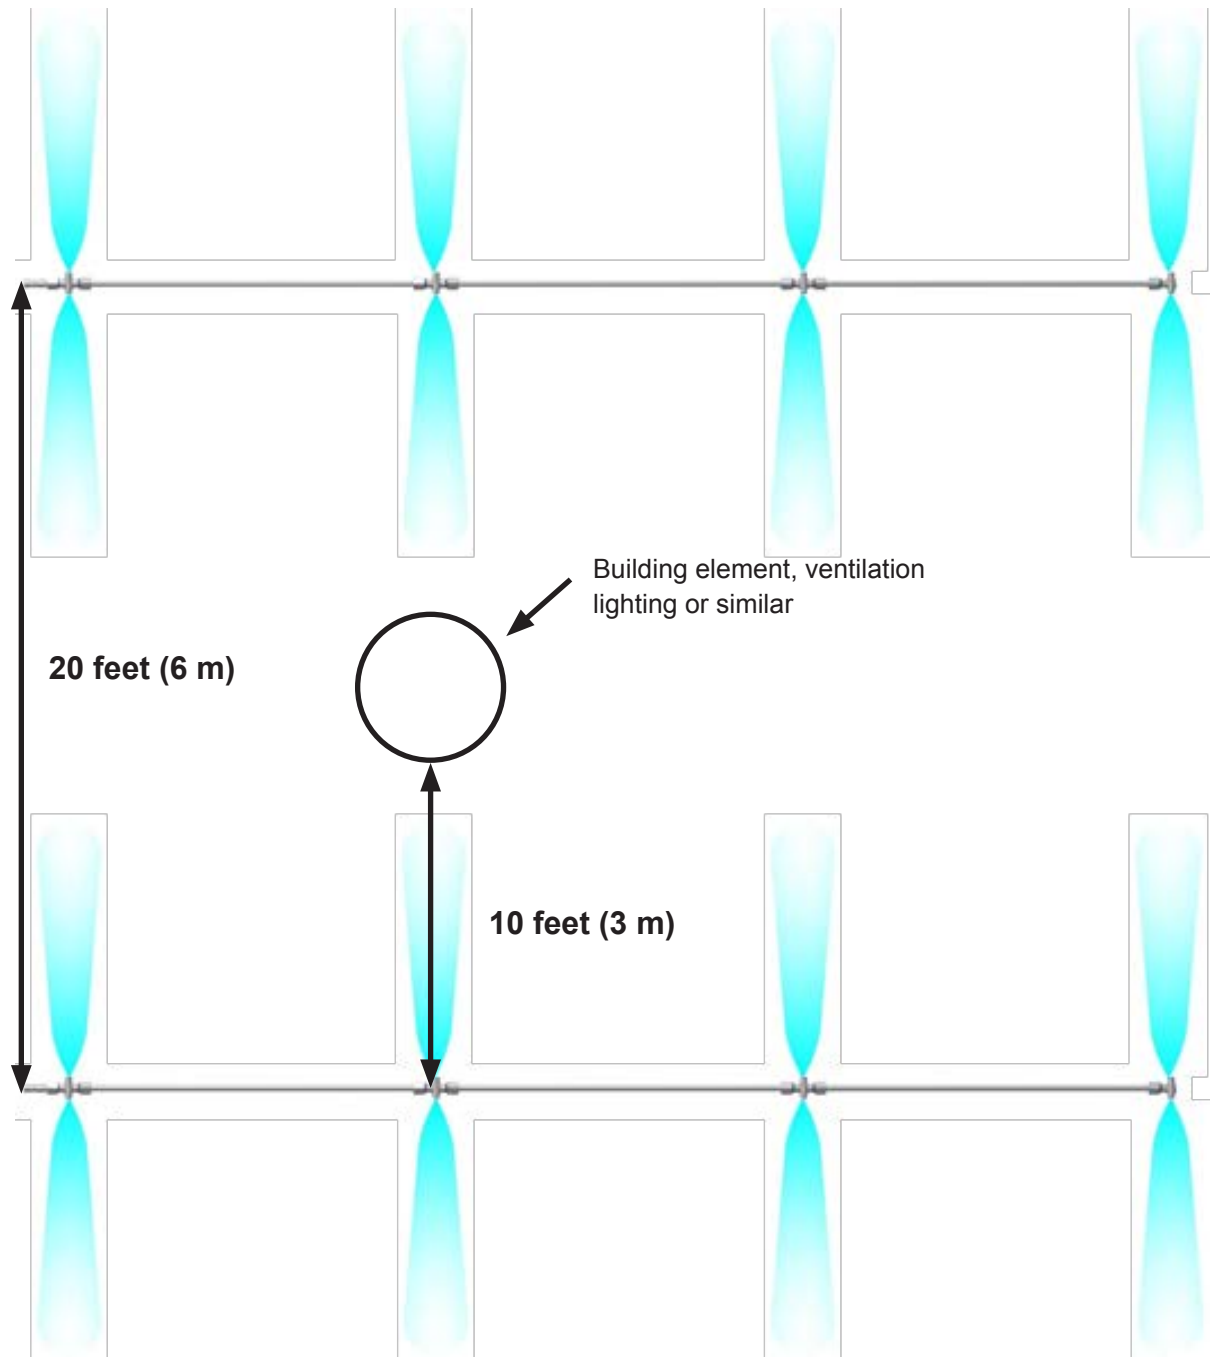

Figure 27: Distances between modules
Prior to mounting the Nortec ML Flex humidification units, ensure that all hose layouts, distances between heads and atomization clearances have been considered and adhered to, as per Figure 27.
- Figure 27 shows the recommended clearances, of the expansion of the atomization stream, and the clearances that have to be maintained. These are ideal and recommended capacities using ML nozzles under standard conditions. Different weather, climate and indoor conditions can alter the spread and distance of the mist
- As shown in Figure 27, when the nozzles and humidification heads are placed one opposite the other, make sure that a minimum distance of 20 feet (6 m) is adhered to. This will avoid the streams to condensate each other.